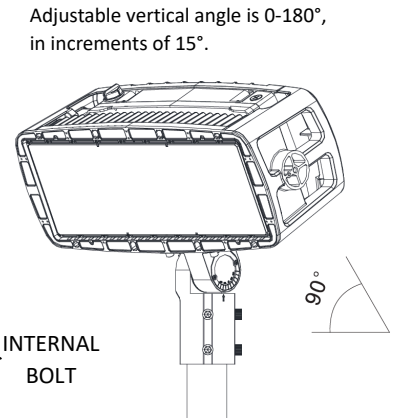

Fig. 7
- b. Rotate the slip fitter up to 90° in each direction (Fig. 7).